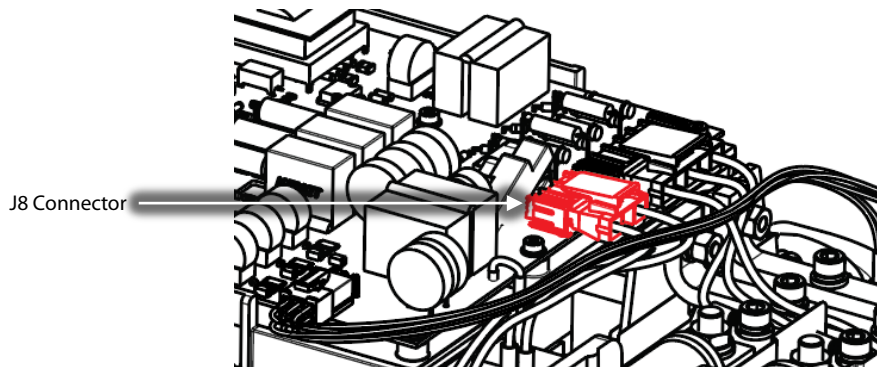

Figure 9 – J8 Soft Start Connection
1. Disconnect the J8 connector on the Soft Start. Refer to Figure 9 – J8 Soft Start Connection.